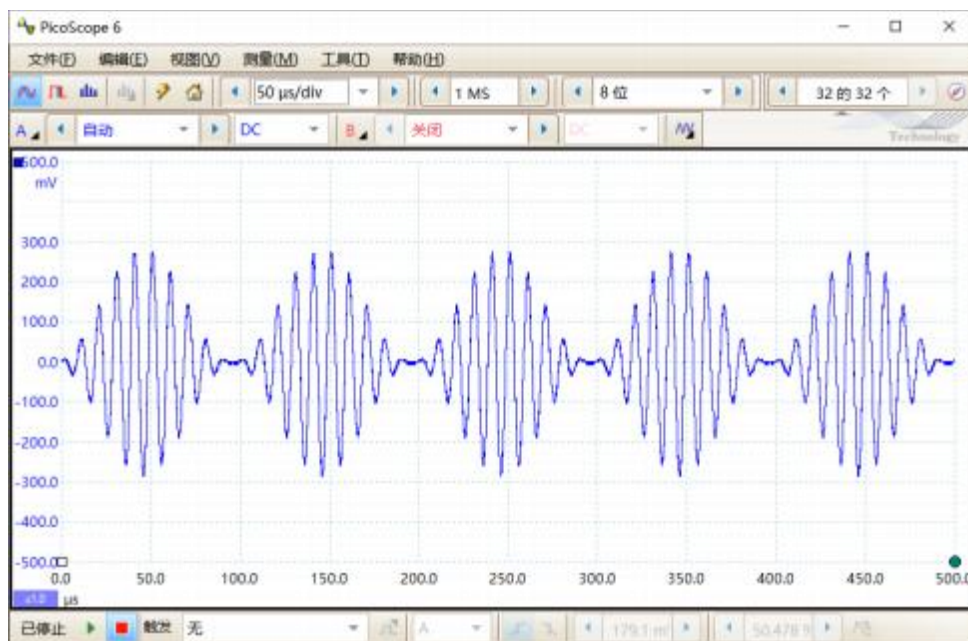

Figure 105. Waveform of AM Modulated Signal
1. The function generator is configured in AM modulation mode, using a sine wave with 100 kHz frequency and 200 mVrms as the carrier wave, and a sine wave with 10 kHz frequency and 100% modulation depth as the modulating wave. Note that when operating in AM modulation mode, the carrier wave amplitude is halved regardless of the modulation depth settings. For example, if the current setting is 200 mVrms, the actual amplitude will be only 100 mVrms. The waveform output from the function generator is shown in Figure 105: